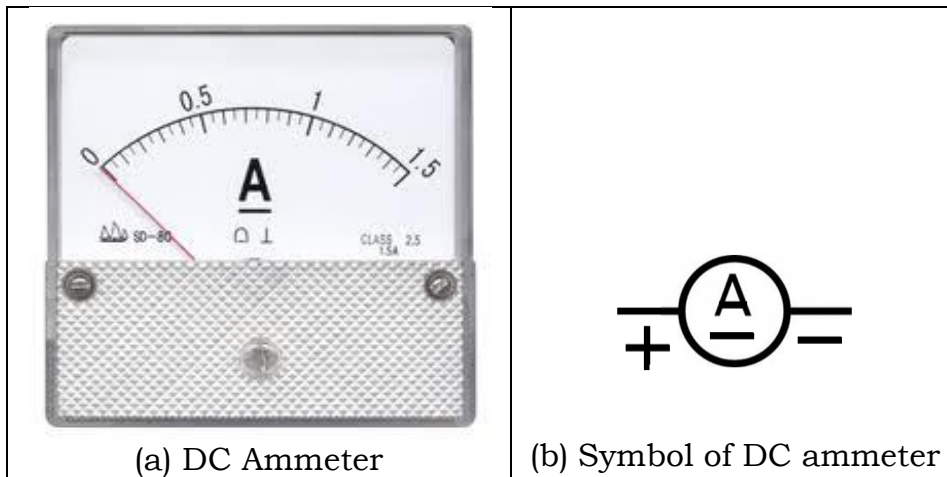

Fig. 3.4
**DC Ammeter:** DC Ammeter is used to measure DC current. A typical DC ammeter and its symbols are shown in fig. 3.4 (a) and (b) respectively.